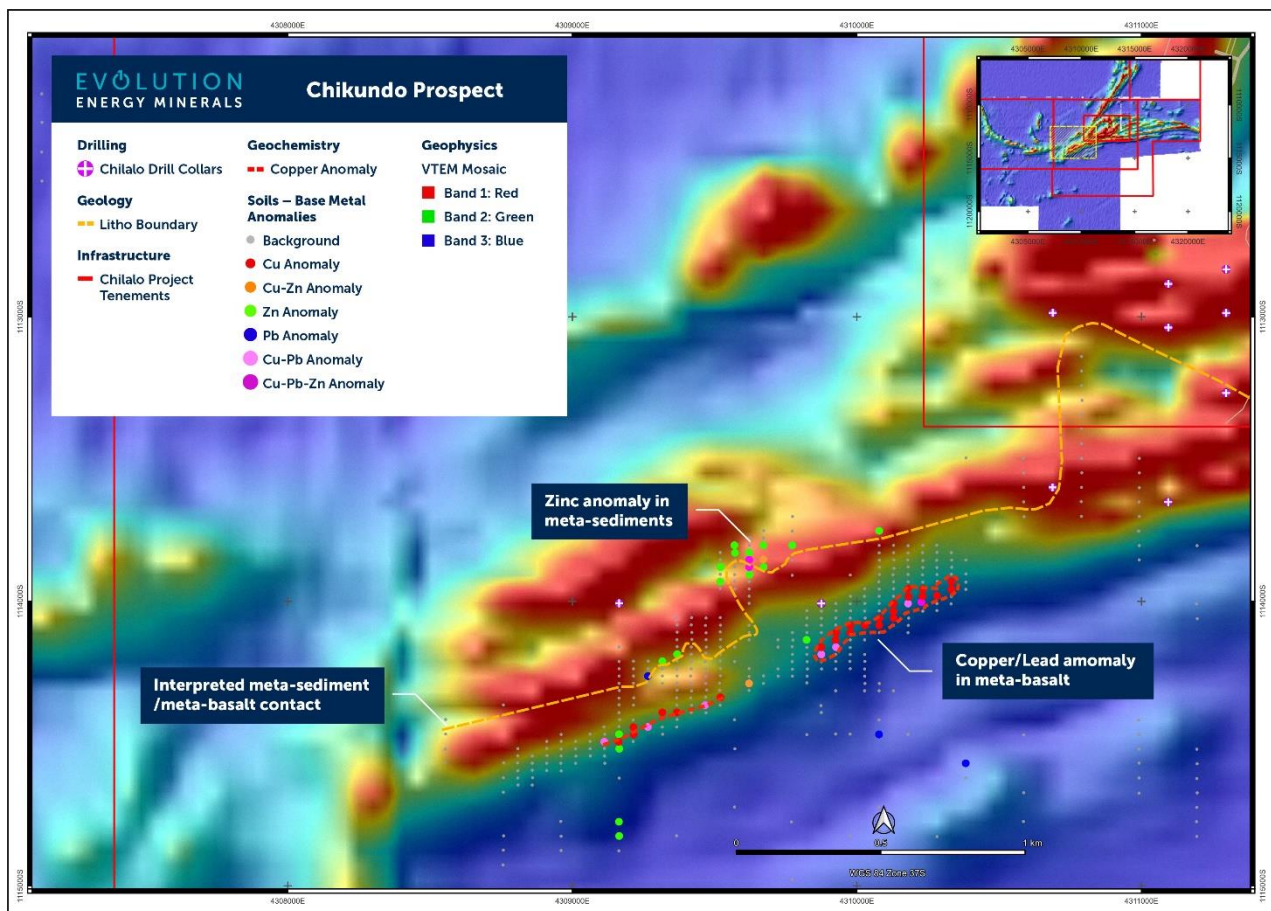

Figure 2: Copper, Lead and Zinc anomalies on VTEM data at the Chikundo Cu-Pb-Zb prospect
- As shown in **Figure 2**, the analysis indicated a clear contact boundary between a metamorphosed (**meta**)-sediment and meta-basalt, trending in a north-westerly direction.
- The Cu and Pb anomalies are hosted in the meta-basalt, and the Zn is hosted in the meta-sediment. There is also a Barite layer overlaying the basalt, which in turn is overlain by the reduced sediments. **This is typical of classical VHMS system. Refer Figure 2.**